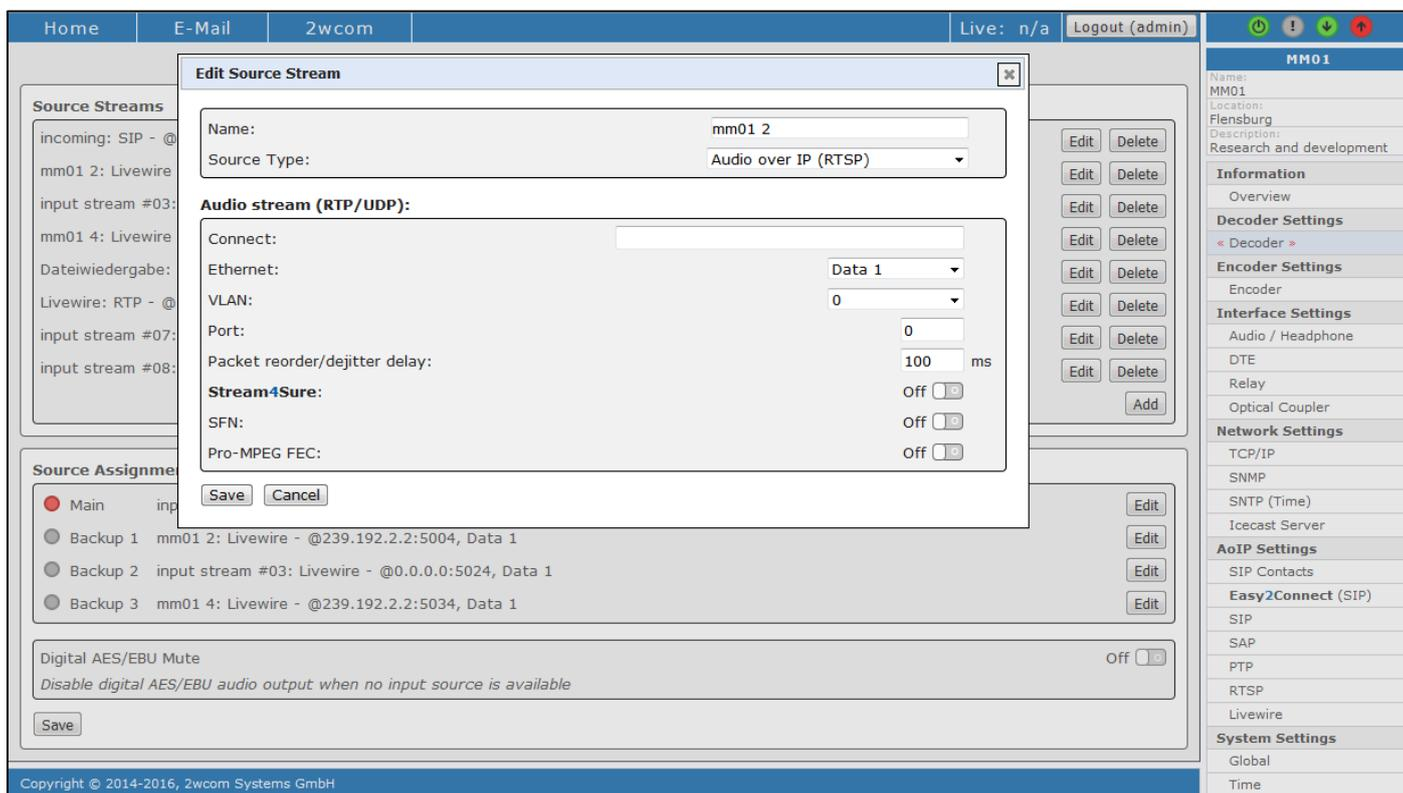

Figure 39: Edit Source Stream for Decoder – Audio over IP RTSP
1. Choose “Audio over IP (RTSP)” in the field Source Type. The menu will be extended to the block **Audio stream (RTP/UDP)** (see Figure 39).
1. Choose “Livewire” in the field Source Type. The menu will be extended to the block **Available Livewire sender** (see Figure 39).